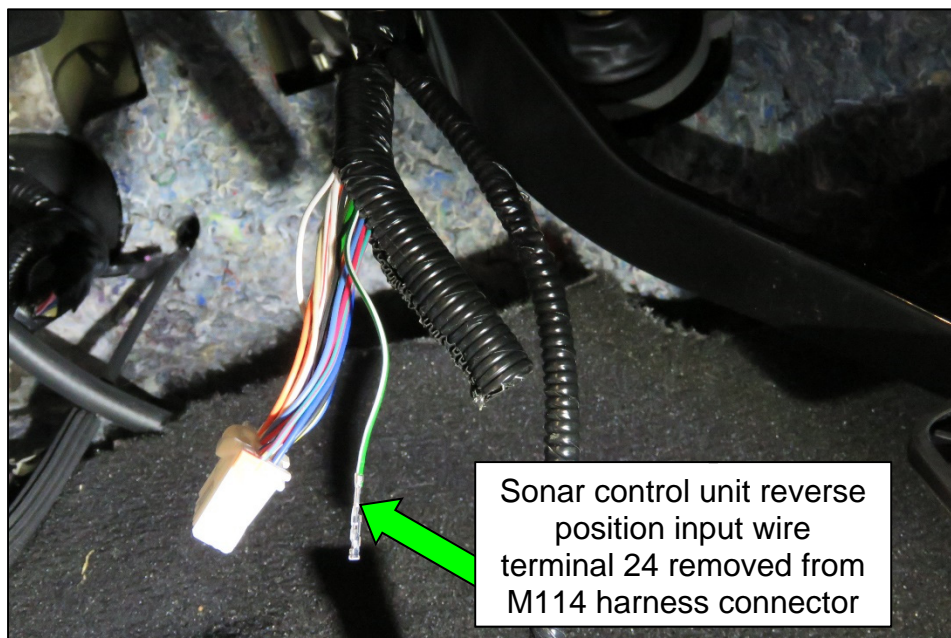

Figure 7
7. Follow the instructions in ASIST for the Harness Repair Kit User Guide to remove terminal 24 from the M114 harness connector (Figure 7).